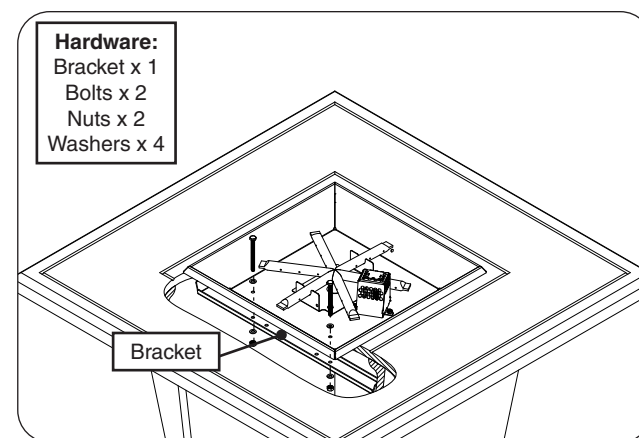

Fig. 28-4 Install bracket
Important: Handle with care to prevent damage to the thermocouple, electrical, and gas connections (as applicable). Ensure the valve is oriented and inserted in the manner shown. See Fig. 28-4.
6. Locate the supplied support bracket and install as shown in Fig. 28-4. The bracket must be inserted into the enclosure through the door opening, aligned with the holes found on the burner pan, and fastened with a 1/2" wrench and the supplied bolts (2), nuts (2), and washers (4).